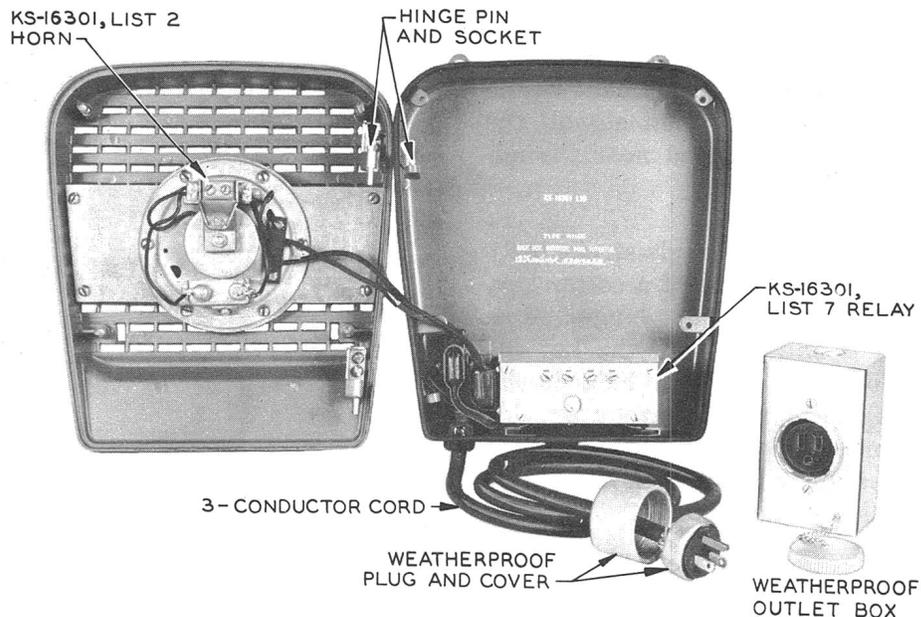

Fig. 6 — Complete Assembly, Outdoor Dual Potential, List 2 Horn
3.11 Each back box is equipped with two sockets which engage with two pins of each front cover to form a hinge (see Fig. 6). The signal fastens to the back box with four machine screws which are furnished with the grilled cover. Observe that the gasket on the back box is in place. For outdoor use, the rain hood mounts on the cover with three machine screws.